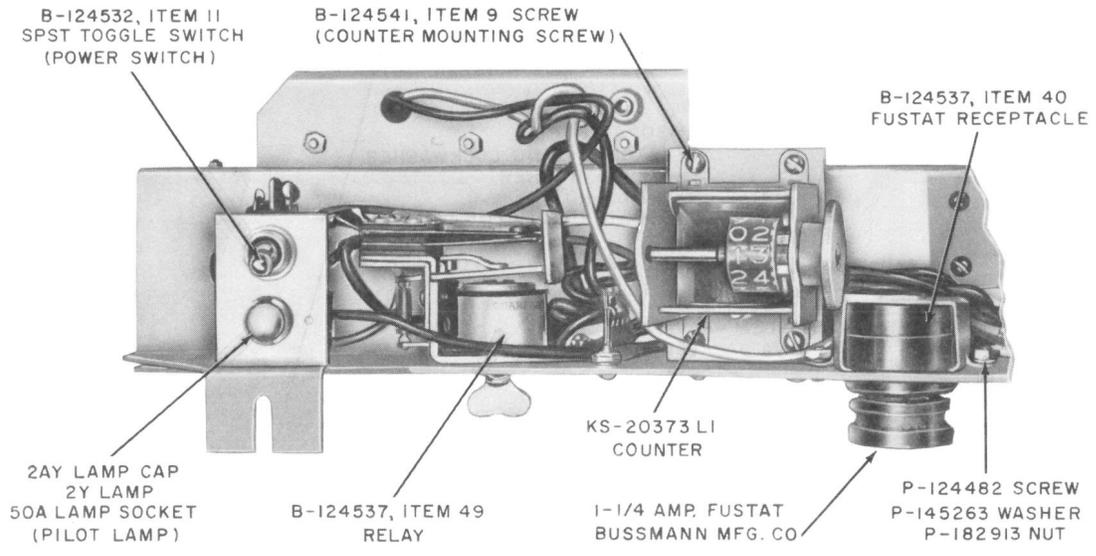

Fig. 2—Chassis Removed From Camera (Partial Front View)
3.06 Power Switch: Fig. 2—Tag and unsolder the leads and the resistor from the switch terminals. Remove the knurled nut using the combination pliers and remove the switch. Set the hexagonal nut of the new switch at approximately the same position on the switch mounting stud as that of the nut on the switch being replaced. Mount the new switch, and securely tighten the knurled nut with the combination pliers. Connect and solder the leads and resistor to the proper terminals of the switch.
3.07 Socket of Pilot Lamp: Fig. 2—Using the 5-inch E screwdriver, remove the left-hand screw from the pilot lamp mounting bracket and slightly loosen the other screw. Swing the bracket so that the terminals are accessible, and then unsolder the resistor and leads from the lamp terminals. Swing the mounting bracket further to gain access to the lamp socket mounting screw, and remove the socket using the 3-inch C screwdriver. Mount the new socket, and solder the leads and resistor to the terminals. Swing the mounting bracket back in position. Securely tighten the mounting screws.
3.08 Counter: Fig. 2—Remove the counter mounting screws with the 3-inch C screwdriver. Unsolder the leads. Connect and solder the leads of the new counter to the proper terminals. Mount the new counter on the mounting bracket, and securely tighten the screws.
3.09 Relay: Fig. 2—Using the 4-inch E screwdriver, remove the relay mounting screw and associated lockwasher. Tag and unsolder the leads from the relay terminals. Connect and solder the leads to the proper terminals of the new relay. Mount the relay, making sure that the lockwasher is on the screw and the screw is securely tightened.
3.13 Fustat Receptacle: Fig. 2—Remove the Fustat. Using the 4-inch E screwdriver, remove the Fustat receptacle mounting screws and associated nuts and washers. Note the terminals to which the Fustat receptacle leads are connected, and then unsolder the leads. Connect and solder the leads of the new receptacle to the proper terminals, and mount the receptacle and Fustat.
3.18 Pilot Lamp and Lamp Cap: Fig. 2—Remove the lamp cap with the 319B lamp cap extractor. If the lamp is to be replaced, remove it with the 553A lamp extractor and mount the new lamp in the socket. Remount or replace the lamp cap as required.